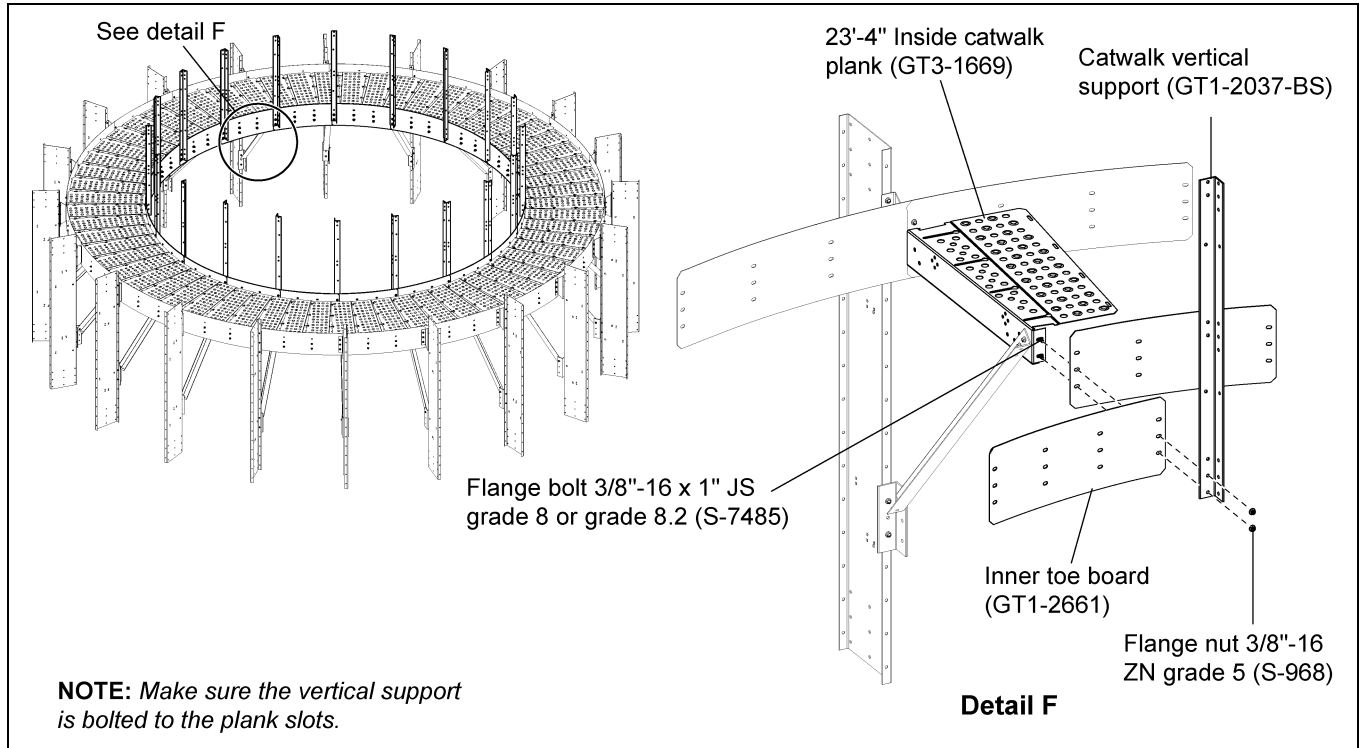

Figure 5J
1. Install all the inner toe boards (GT1-2661) to the planks (GT3-1669). (See Figure 5J.)
2. When installing the inner toe board with planks, install the catwalk vertical support (GT1-2037-BS) simultaneously at proper locations using 3/8"-16 x 1" JS grade 8 or grade 8.2 bolts (S-7485) and 3/8"-16 ZN grade 5 nuts (S-968). (See Figure 5J.)